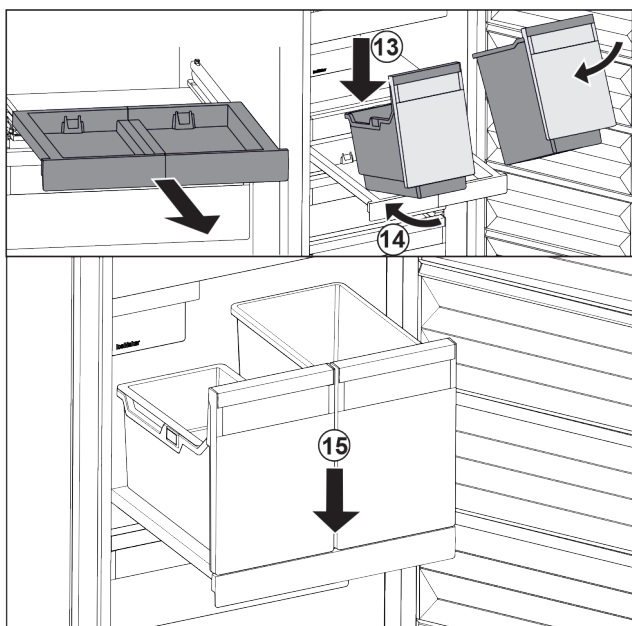

Fig. 29
- Place the container at an angle on the pull-out board. Fig. 29 (13)
- Slide in the container at an angle to the back. Fig. 29 (14)
- Place container at the front. Fig. 29 (15)